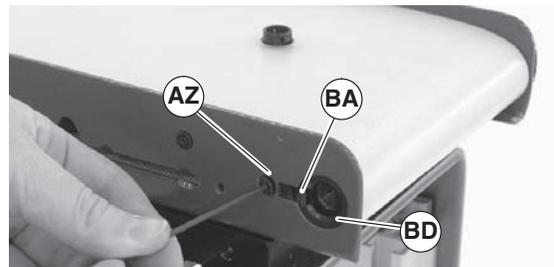
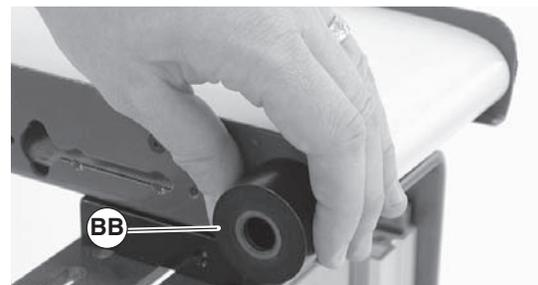
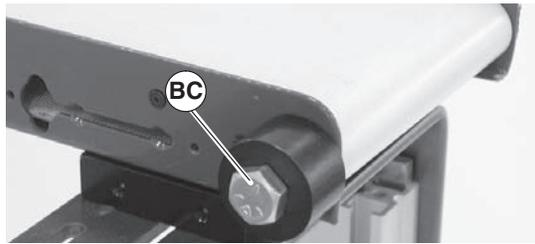

Figure 33
Figure 34
Figure 35
- Loosen but do not remove screw (Figure 33, item AZ). Push until pulley retaining sleeve clip (BA) pushes out.
- Remove retaining clip (BA) and screw (AZ).
- Position bearing anvil/sleeve removal tool (Figure 34, item BB) (25-09, part of tool kit 4500) over retaining sleeve (Figure 33, item BD).
6. Insert bolt (Figure 35, item BC) (906-278, part of tool kit 4500) into retaining sleeve (Figure 33, item BD).